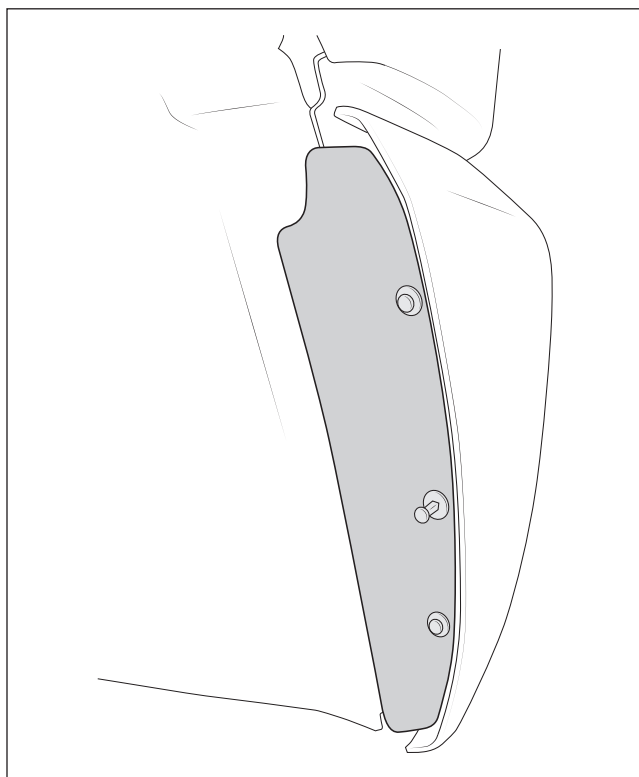

Figure 45
4. Install fender liner retainer plates (fig. 45).